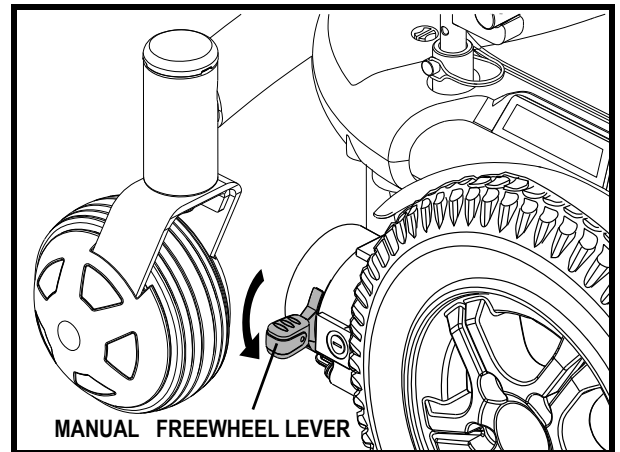

Figure 8b. Freewheel Mode (Drive Disengaged)
3. Push down both manual freewheel levers to disengage the motors (freewheel mode). See figures 8b and 9b.